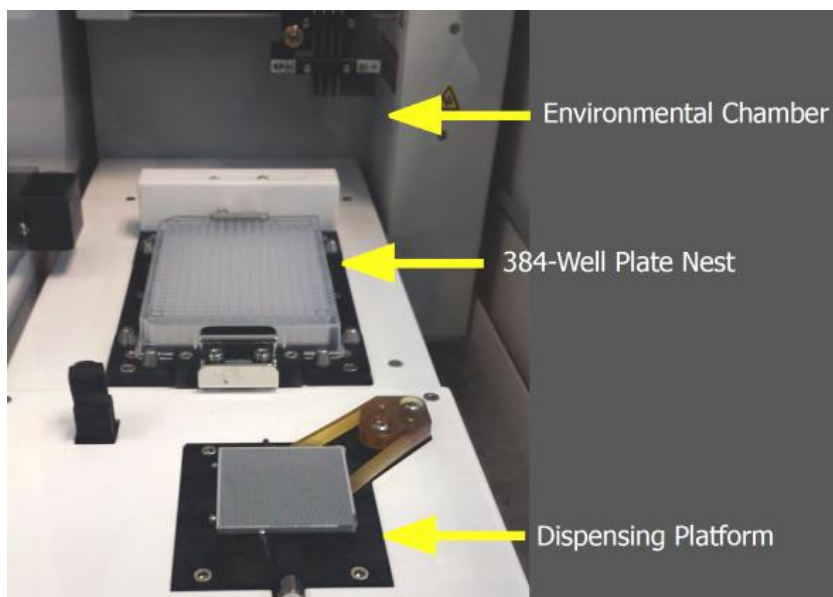

Figure 5. ICCELL8 MSND Stage Module.
- All dispensing steps in the MSND Stage Module should be performed with the 384-well source plate oriented with the A1 well positioned at the top-right corner of the 384-well Plate Nest, and the chip oriented with the chamfered (notched) corner positioned towards the lower-right corner of the Dispensing Platform (Figures 5–7, below).